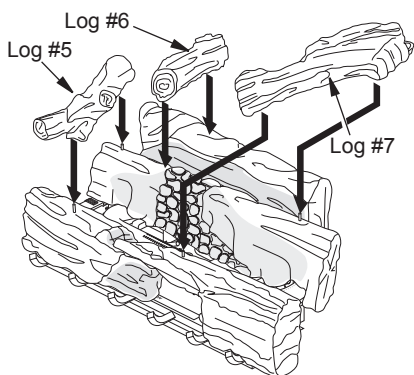

Figure 23 - Placement of Crossover Logs (Logs #5, #6, and #7)
5. Place left crossover log (log #5) on pegs of log #2 and #3 (see Figure 23). Place middle crossover log (log #6) on pegs of log #1 and #2 (see Figure 23). Place right crossover log (log #7) on pegs of log #2 and #4 (see Figure 23).